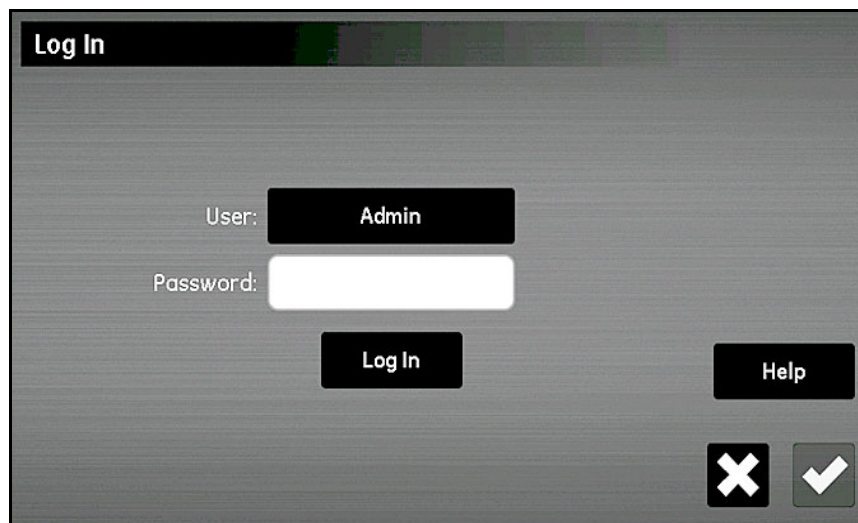

Figure 70: Log In Screen
Only the **Admin** can add, modify, or remove the other user accounts. To log in as the **Admin**, select **Configuration > User Management**, to open a *Log In* screen similar to *Figure 70* below.
1. From the *Configuration Menu* screen (see *Figure 52 on page 55*), tap the **User Management** button to open the *Log In* screen (see *Figure 70 on page 74*).